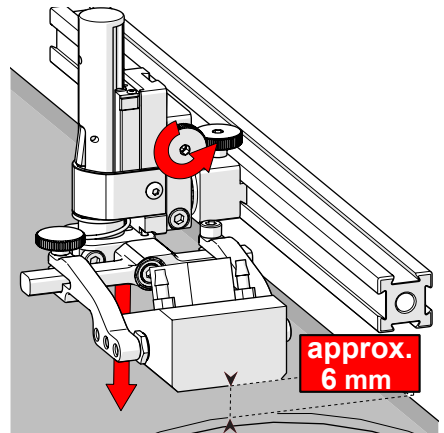

Fig. 119 - Lower toward scan surface
2. Loosen the vertical adjustment knob and slide the probe holder down until the wedge is approximately 6 mm ( $\frac{1}{4}$  in) above inspection surface (Fig. 119).